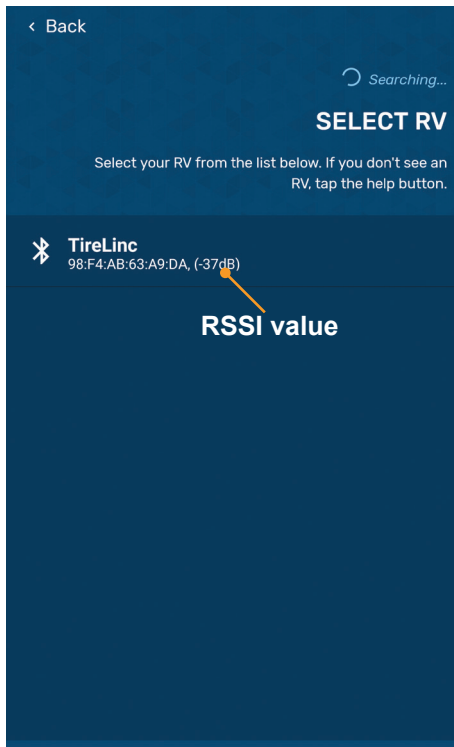

Fig.5
6. Look for Tire Linc and press the listing. If more than one Tire Linc option appears in the list, select the one with the strongest RSSI value. The RSSI value is displayed at the end of the listing, which is -37dB in **Fig.5**.